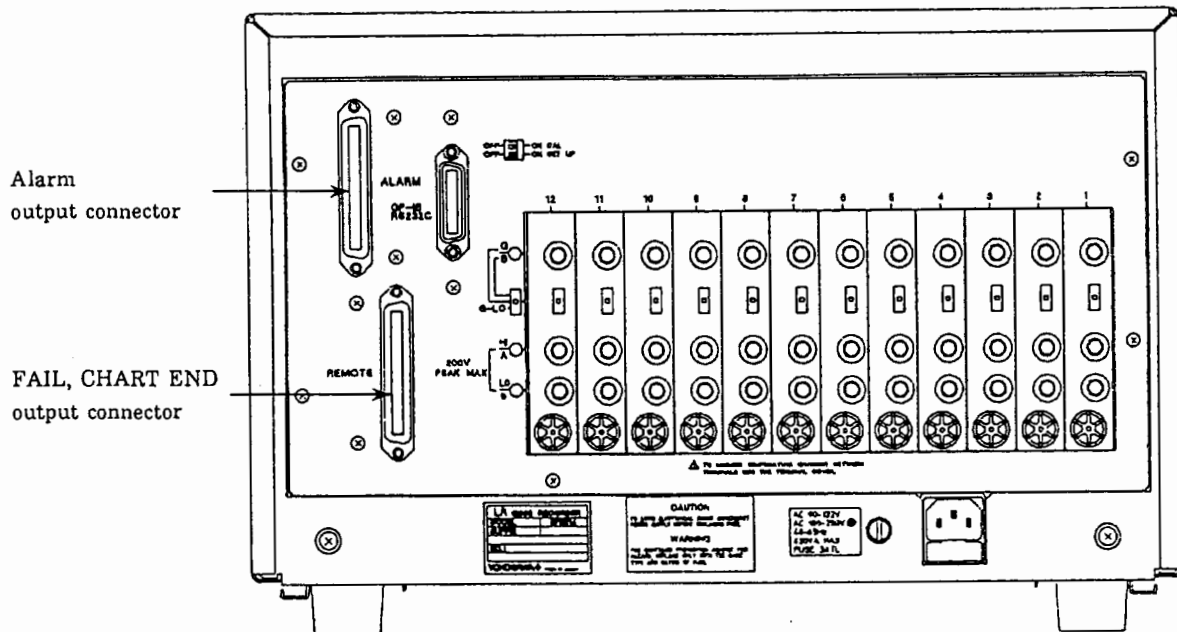

Figure 2.1 Rear Panel
(1) Figure 2.1 depicts the recorder rear panel.